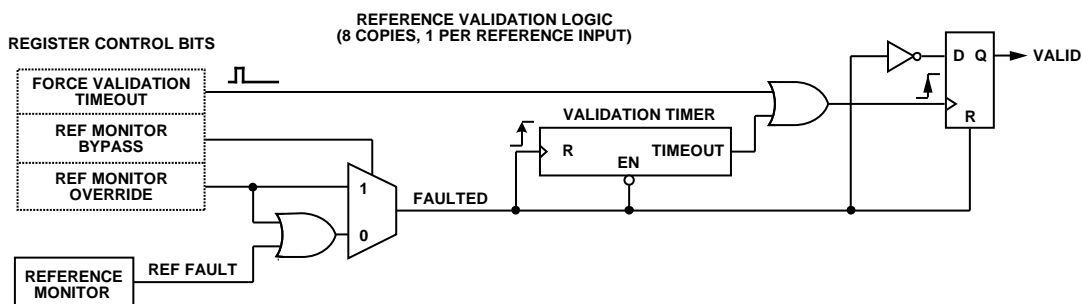

Figure 35. Reference Validation Override
Register 0x0A0E to Register 0x0A10 provide the user with the ability to override the reference validation logic enabling a certain level of troubleshooting capability. Each of the eight input references has a dedicated block of validation logic as shown in Figure 35. The state of the valid signal at the output is what defines a particular reference as valid (1) or not (0), which includes the validation period (if activated) as prescribed by the validation timer. The override controls are the three control bits on the left side of the diagram.